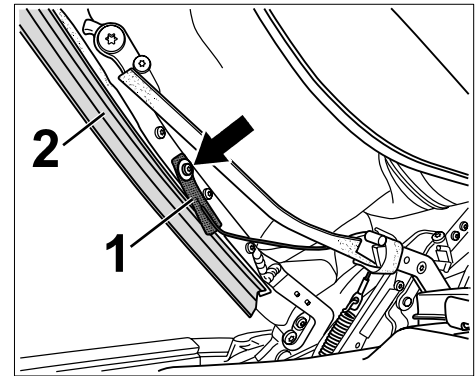

Figure 1
- 2.1 Unscrew fastening screw $\Rightarrow$ Figure 1
-Arrow- on the tension rope for the convertible top rooflining $\Rightarrow$ Figure 1 **-Pos. 1-** at the convertible-top tension bow $\Rightarrow$ Figure 1 **-Pos. 2-**.